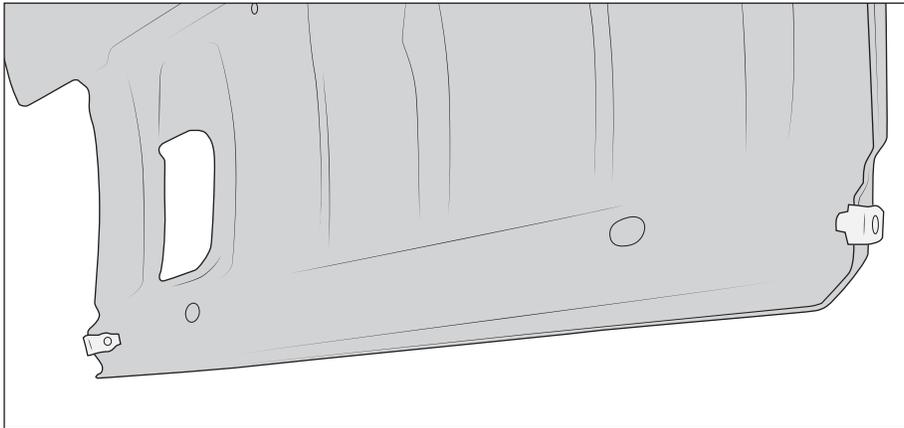

Figure 17
11. Install QTY 2 M6 U-Nuts on the front of skid plate (fig. 17).